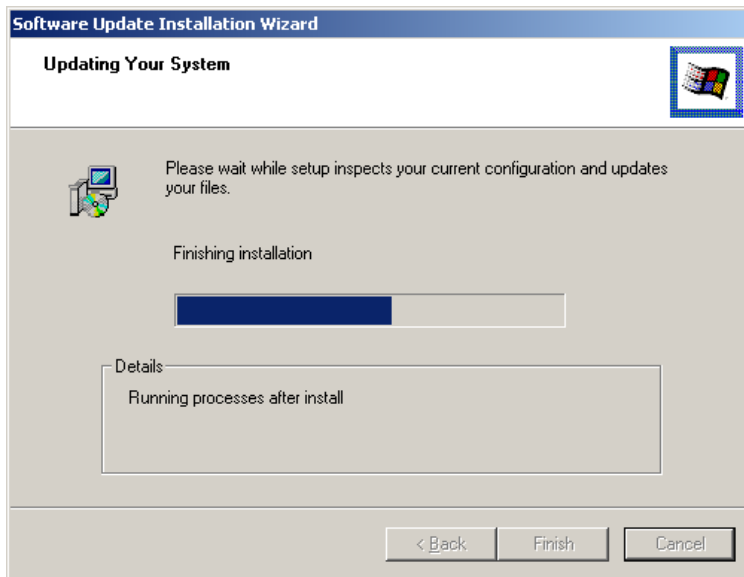

Figure 6-36: Installation Wizard Updates the System
Step 9: The Installation Wizard updates the system as shown in **Figure 6-36**.